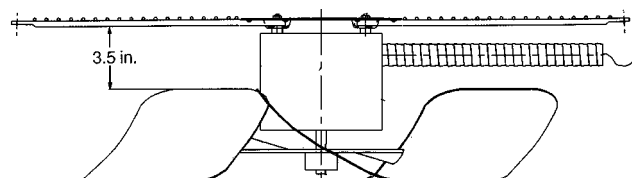

Fig. 18 — Outdoor-Fan Adjustment
4. Adjust fan height as shown in Fig. 18.